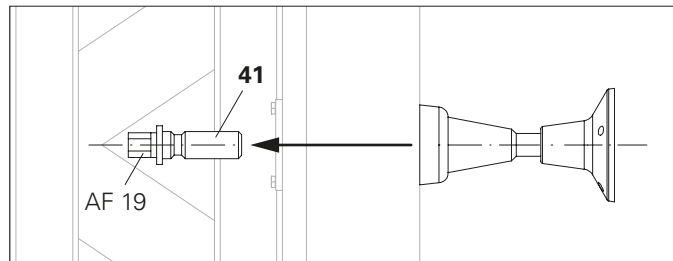

Fig. B1.10
2. Remove formwork. (Fig. B1.10)